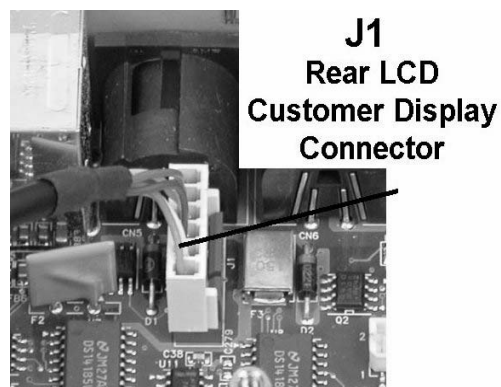

Figure 2-16: Attaching the Rear LCD Cable to the System Board
6. Attach 400416-007 to System Board connector J1. Figure 2-16.